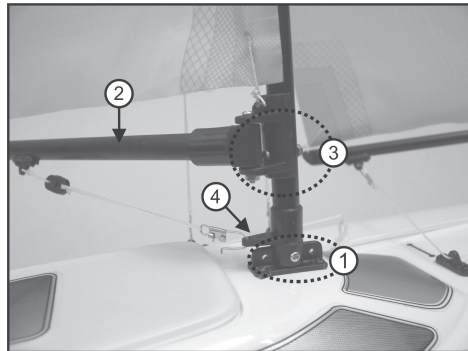

Figure 6
Install the mast to the upper deck at the middle hole of the mast holder with an M2 screw and M2 nut as shown in figure 6, item 1.
Attach the transverse beam (2) of the mainsail (called a „boom“ in sailing) to the mast with an M2 screw and M2 nut (figure 6, item 3).